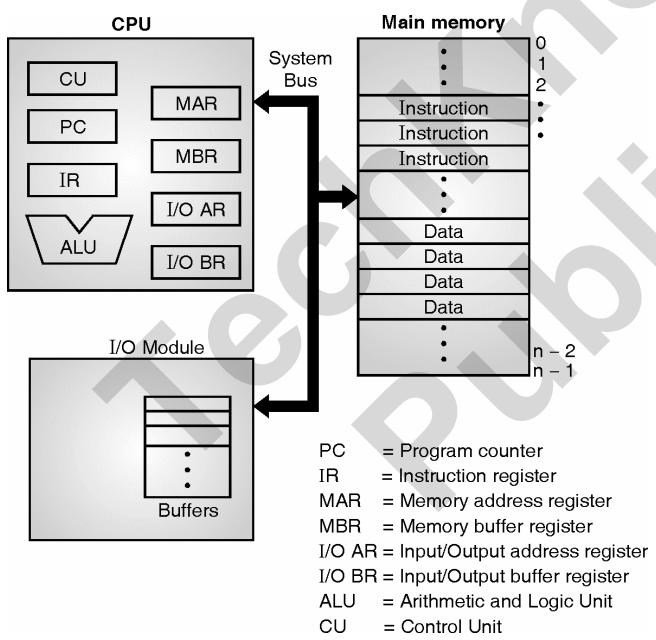

Fig. 10.2.1 : Basic Components of the computer and the CPU
- Fig. 10.2.1 shows the basic components of the computer and their interconnection. Also the internal components of the CPU are shown in the Fig. 10.2.1.
- The CPU also has some registers as seen in the Fig. 10.2.1. The register PC (Program Counter) is a register that always points to the next instruction to be executed. Hence the word "Program" in the name.